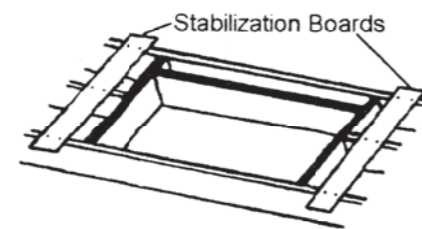
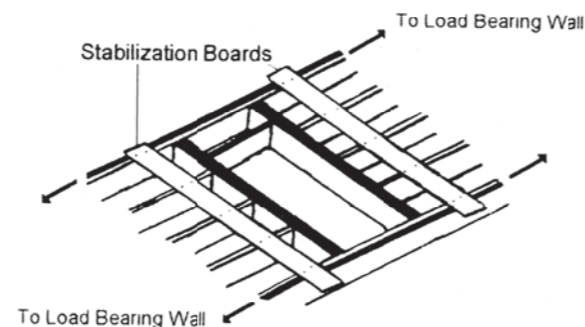

Fig. 2
Fig. 3
- Step 3** Using joist-size material, build a four-sided frame to install the stairway. Shaded areas in Fig. 2 & 3 illustrate the frame that must be built before installing the stairway. When making double headers (for perpendicular installation) fasten members together with 10d common nails. The double joist sections shown in Fig. 3 must be long enough to be supported by a load bearing wall at both ends.